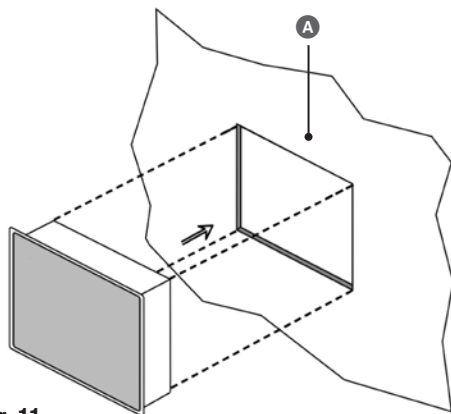

Fig. 11
1. Cut an aperture (see **Fig. 11**) in the control cabinet door or switch panel.